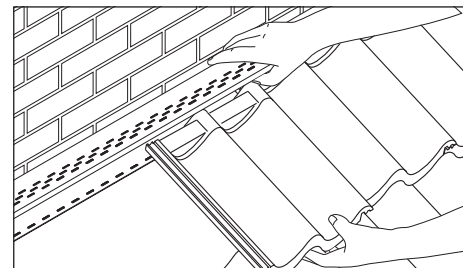

Fig. 3 – Insertion of profiled tiles into batten section
- 5 Roof is tiled in normal way and top course tiles/slates with their respective fillers fitted into batten section (Fig. 3).